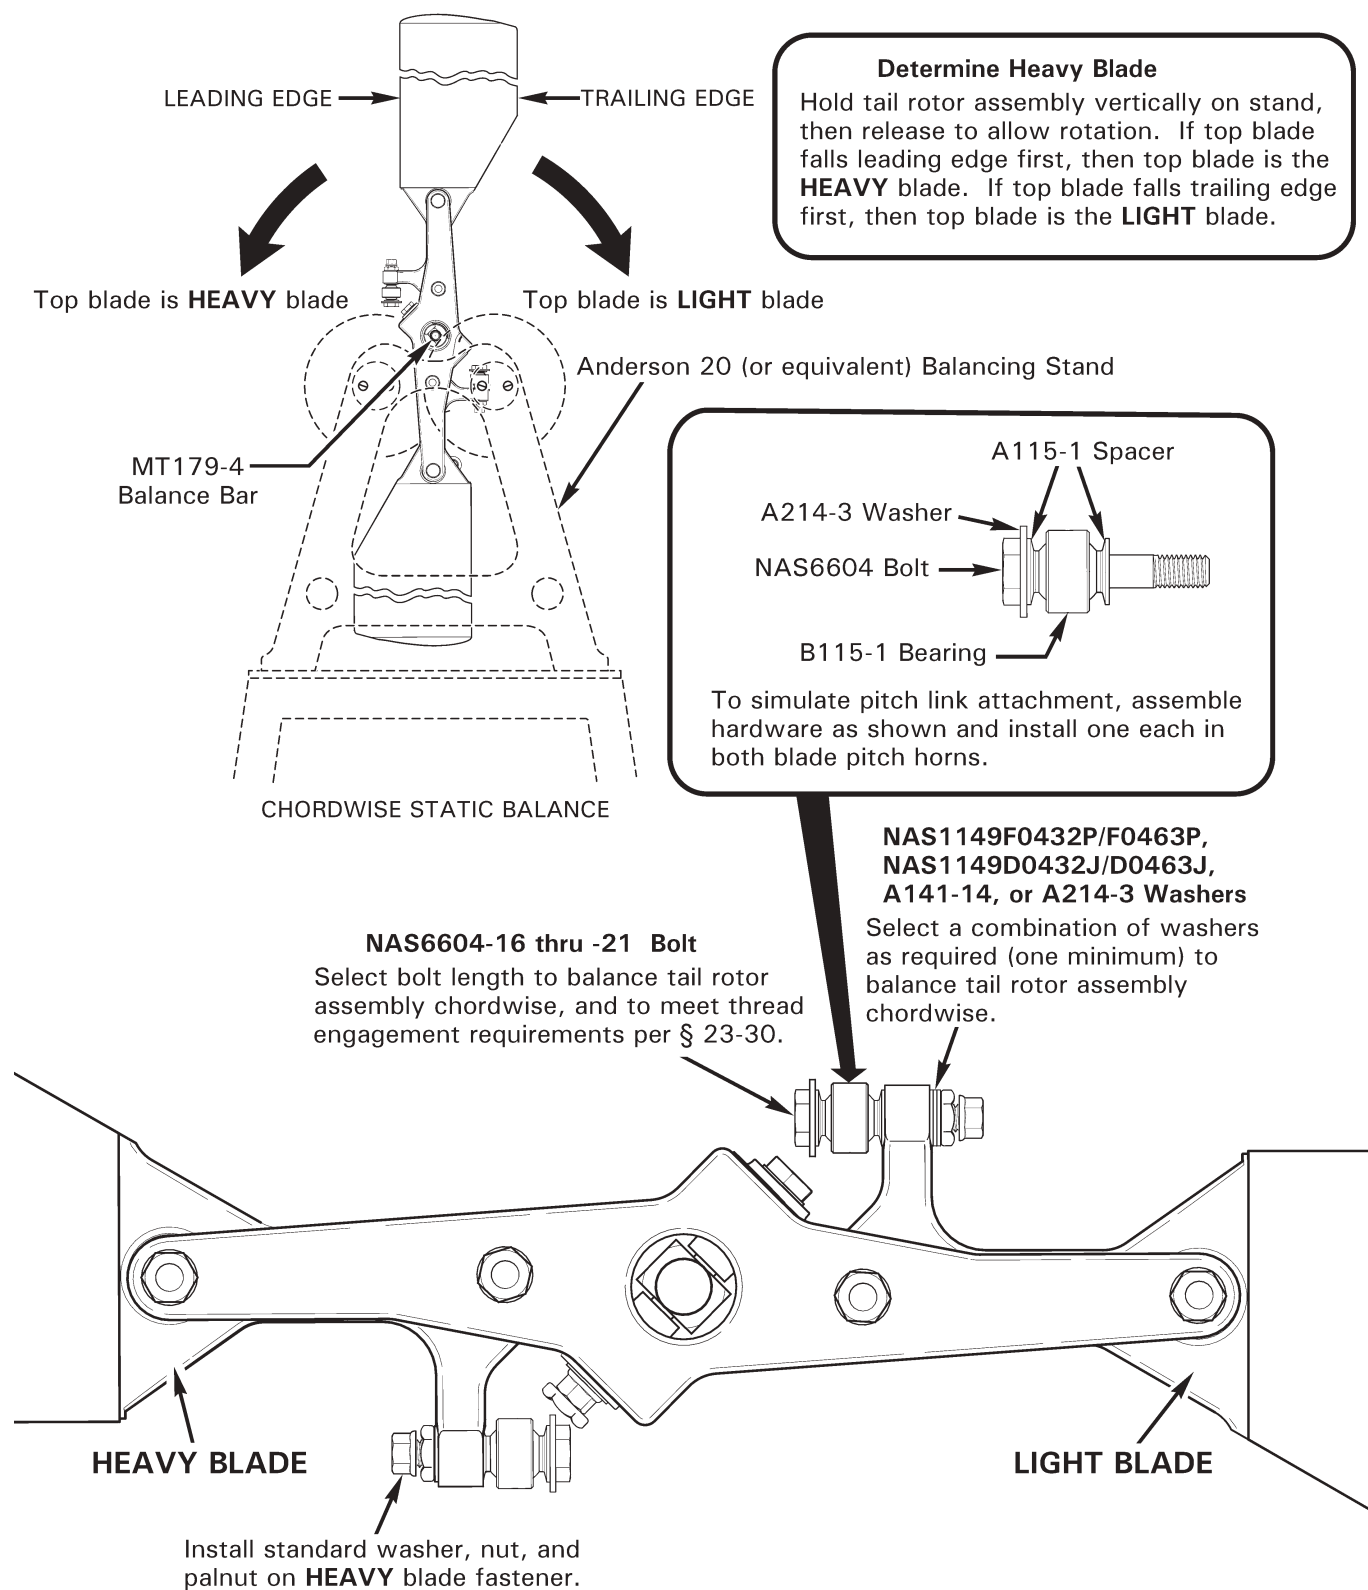

FIGURE 28-2 CHORDWISE STATIC BALANCE
1. Refer to Figure 28-2. Install MT179-4 balance bar into tail rotor assembly. Install teeter hinge bolt thru smaller hole, install nut and tighten until elastomeric bearing metal spacers contact bar. Using a protractor or square, adjust balance bar until approximately perpendicular to hub. While maintaining perpendicularity, special torque nut per § 23-33; install palnut finger-tight. Mark hub with teeter hinge bolt orientation for reinstallation.